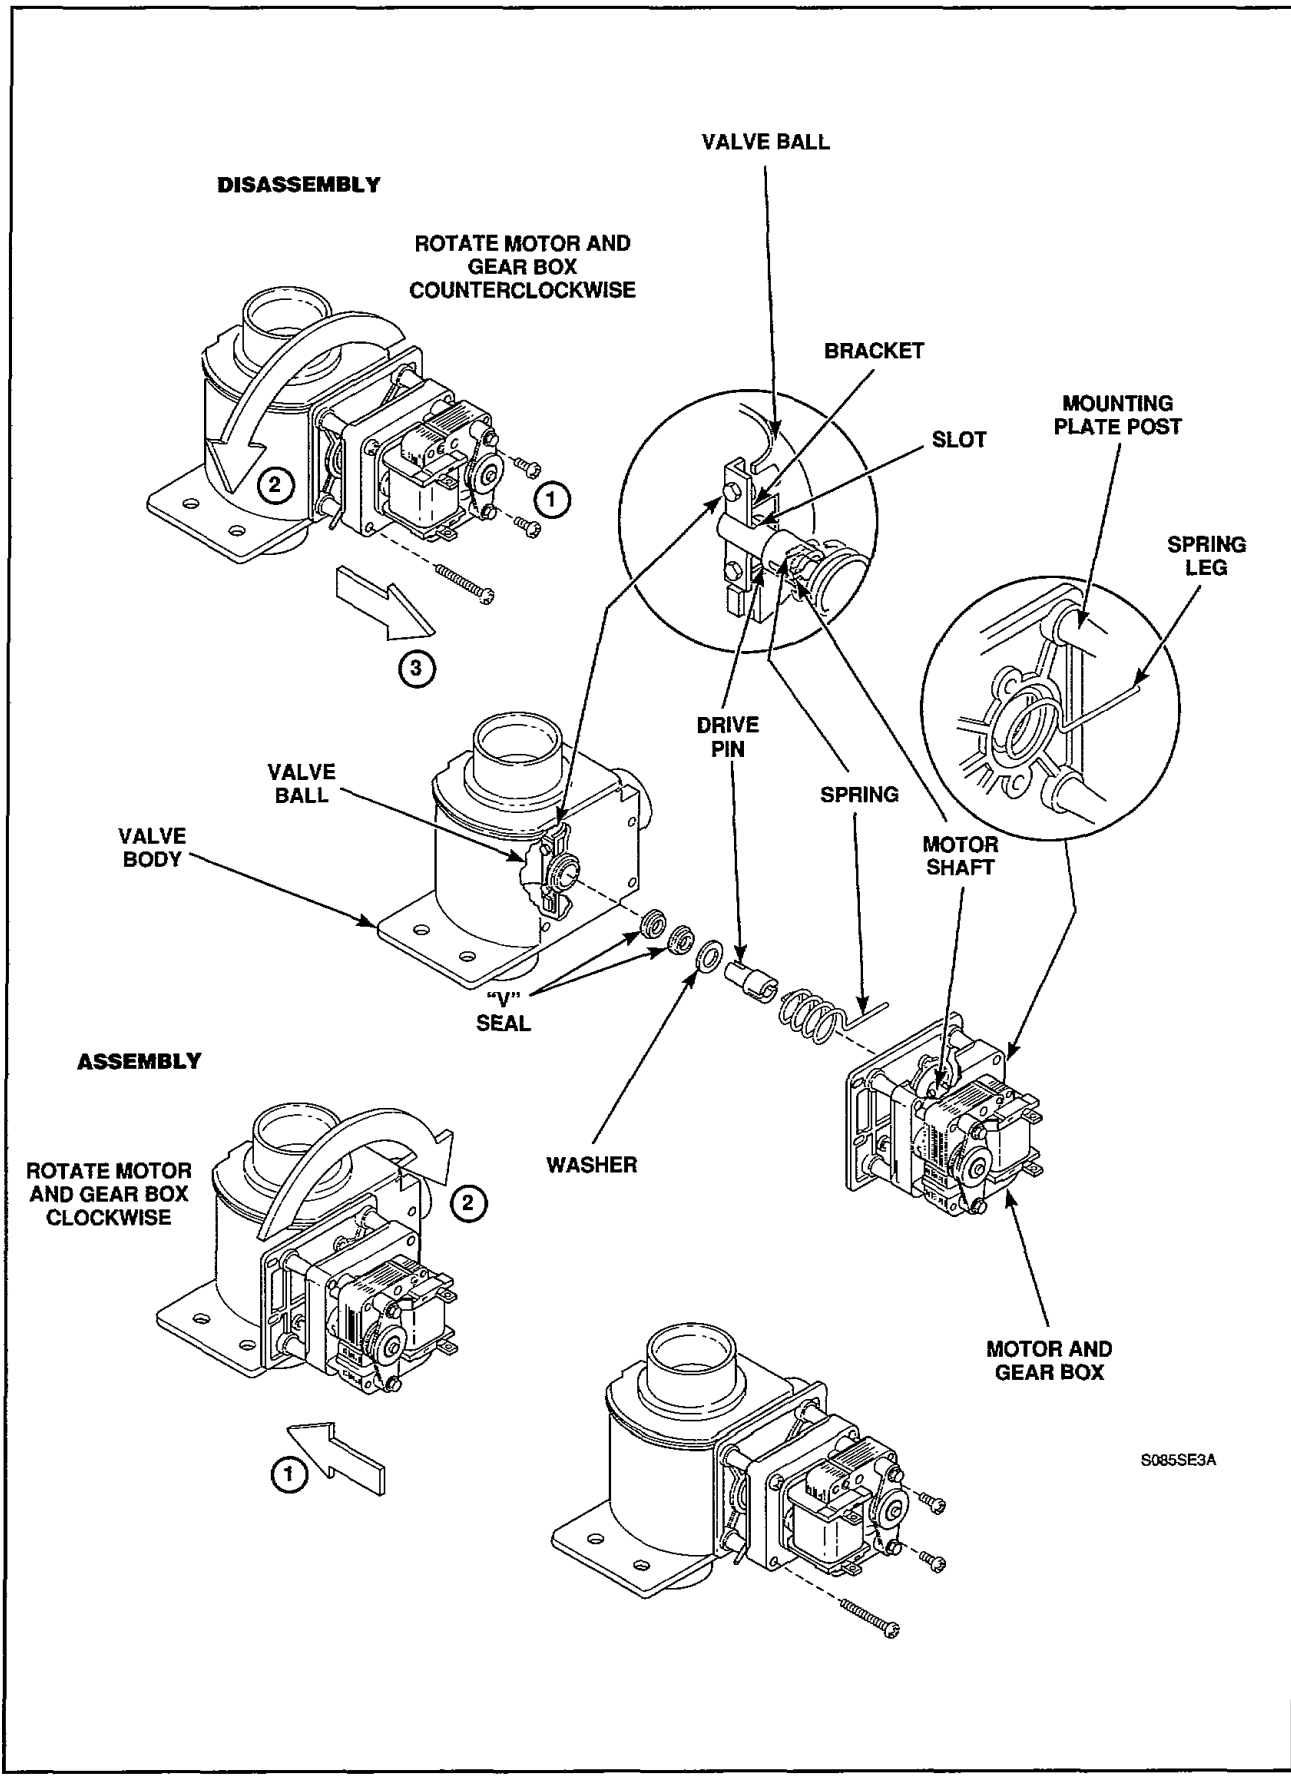

Figure 27A
- Remove two screws holding mounting plate to valve body, *Figure 27A*.
- While supporting drain valve assembly, remove one screw holding motor, gear box and mounting plate to valve body, *Figure 27A*.
- Allow motor to rotate approximately 180 degrees counterclockwise to release the spring tension, *Figure 27A*.
- Carefully remove the motor, gear box and mounting plate off valve body, *Figure 27A*.
- Remove spring from drive pin hole in mounting plate, *Figure 27A*.
NOTE: When reinstalling spring, position the spring arm between the two mounting plate posts as shown in *Figure 27A*.
- Remove drive pin from valve body, *Figure 27A*.
NOTE: When reinstalling drive pin, hold the ball steady inside the valve body with your finger, Align the bracket on the side of the valve ball with the center of the drive pin hole in the valve body. Insert the drive pin into the hole in the valve body making sure the bracket on the valve ball slides into the slot in the end of the drive pin, *Figure 27A*.